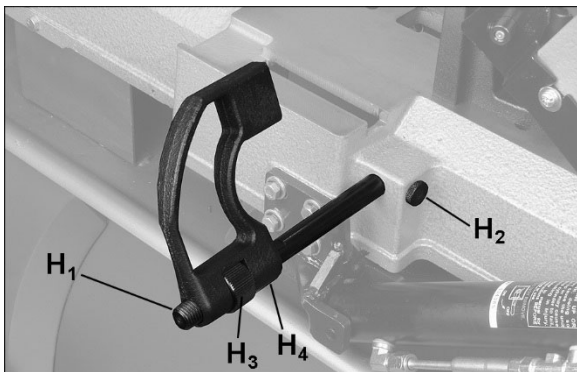

Figure 6-6: installing work stop (712D only)
5. **712D only:** Install work stop rod (H₁, Figure 6-6) into hole and tighten knurled nut (H₂). Install work stop onto rod threads by rotating collar (H₃). Secure position of work stop by tightening set screw (H₄) onto rod flat.